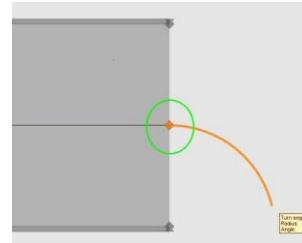

Figure 3.11: The orange circle indicates the correct connection of two road segments (The green marking is only for visualization in this tutorial)
- 3) There are two possible methods of connecting road segments. The first one applies when you wish to create a new road segment connected to one drawn previously (e.g. a turn after a straight). Select the relevant icon (e.g. the *Turn* tool) from the tool panel and place the cursor over the middle line at the end of the first segment. An orange circle (see Figure 3.11) appears. Click using LMB and the start point of the new segment will be connected to the endpoint of the previous segment.